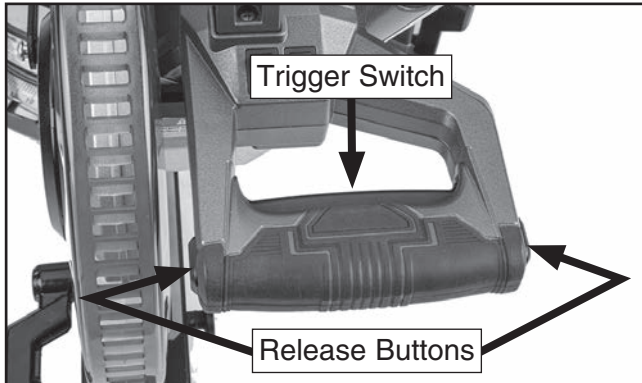

Figure 36. Operating handle controls.
6. Allow cutting head to return to its normal, parked position. Put on personal protective equipment then press release button and pull trigger switch to start saw (see **Figure 36**).
6. Allow cutting head to return to its normal, parked position. Put on personal protective equipment, then press release button and pull trigger to start saw (see **Figure 36**).